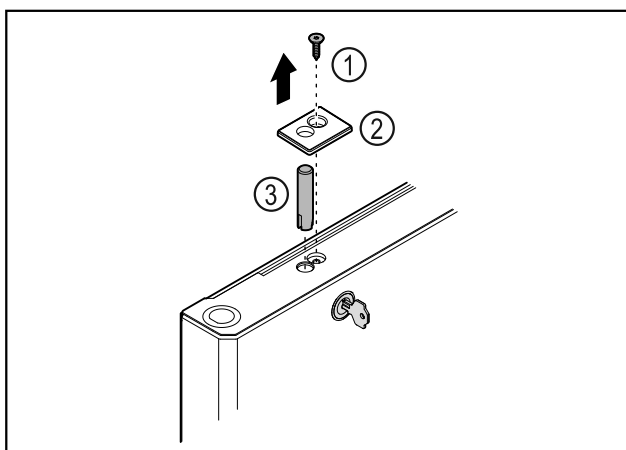

Fig. 42
- ▶ Remove the screw Fig. 42 (1).
- ▶ Unlatch the cover Fig. 42 (2) with a small screwdriver and remove it.
- ▶ Pull out the lock bolt Fig. 42 (3).